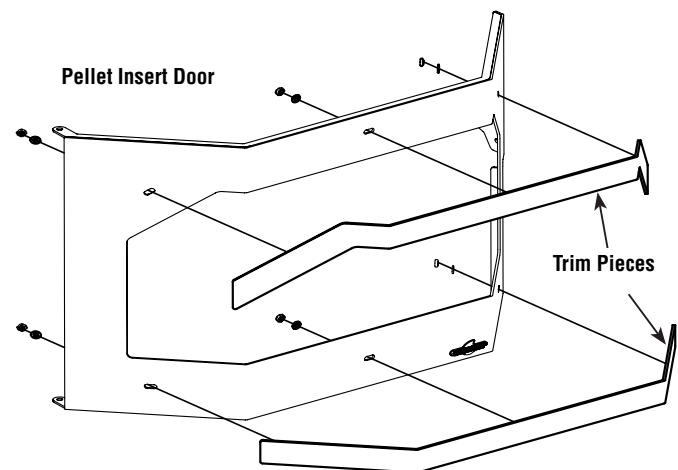

Figure 14
3. Open front door. Put trim in place by inserting trim studs into the corresponding holes in the door (**Figures 14 and 15**). The top piece of trim will only fit in one direction, but the bottom piece can be installed incorrectly. When placing the bottom piece of trim, make sure there is a 9/16" gap between the top of the trim piece and the glass in the door. See **Figure 18**.